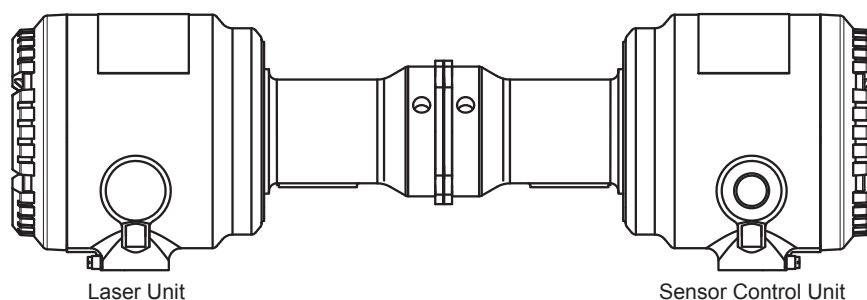

Figure 10.3 Direct connection of the LU and SCU
- (c) Connect the LU and SCU directly as shown in Figure 10.3.